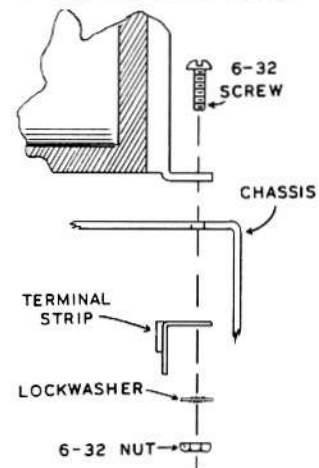

Figure 4
(X) Mount the power transformer on top of the chassis. Also install the 3-lug terminal strip as shown in Figure 4.